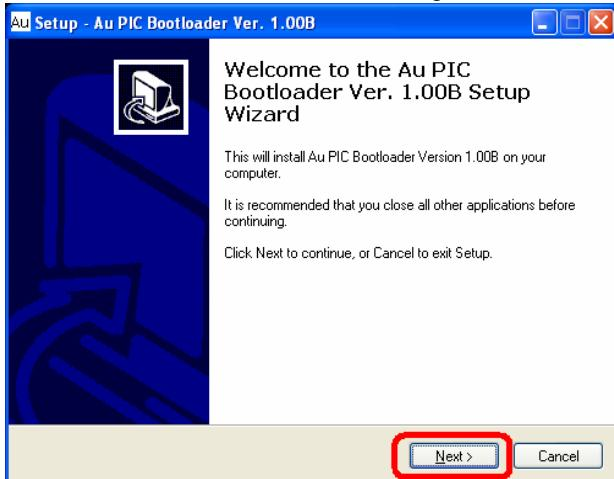

Figure C-2
2. "Welcome to the Au PIC Bootloader Setup Wizard" window show up, click "Next" (Figure C- 2)